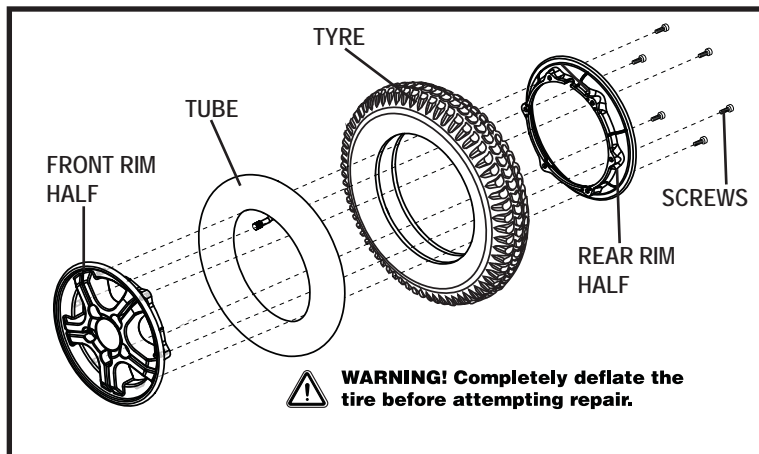

Figure 20. Quantum 600 Sport Drive Wheel Disassembled
6. Remove the screws and separate the front and rear rim. **See figure 20.**
10. Reinstall the five (5) lug nuts onto the wheel hub and tighten.